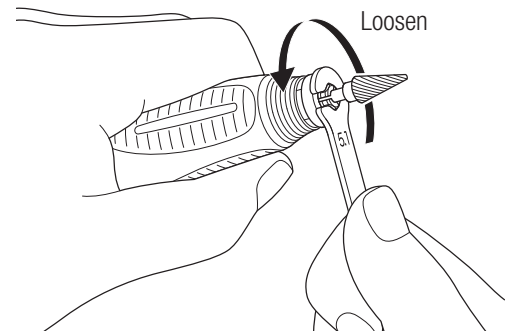

Fig. 8
- 2) Turn the chuck counterclockwise with the spanner wrench included with the product (Fig. 8).